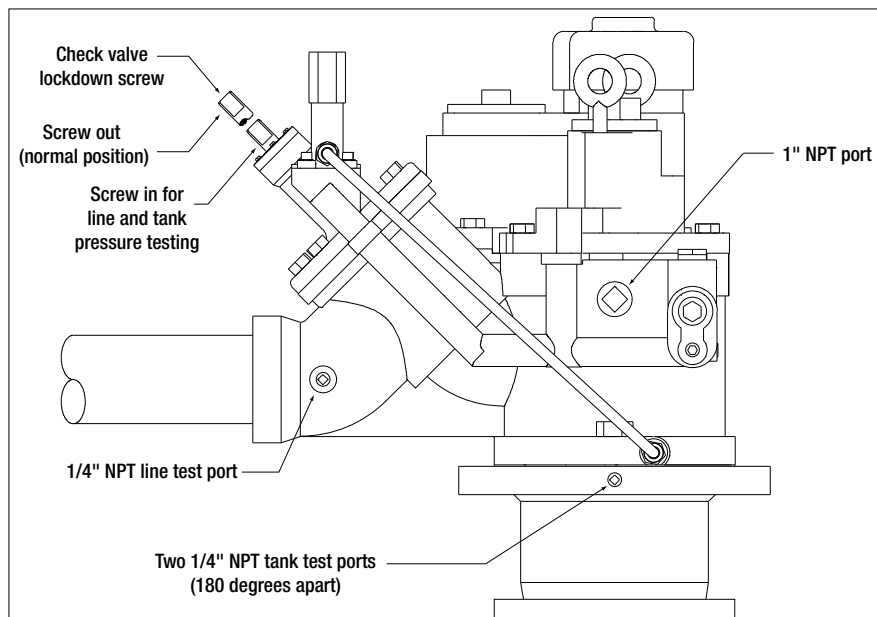

Figure 13. Maxxum Packer-Manifold Assembly: Line and Tank Testing
2. Lock down the pump check valve by turning the check valve lock down screw clockwise as far as it will turn (see Figure 13).
1. Lock down the pump check valve by turning the check valve lock down screw clockwise as far as it will turn (see Figure 13).